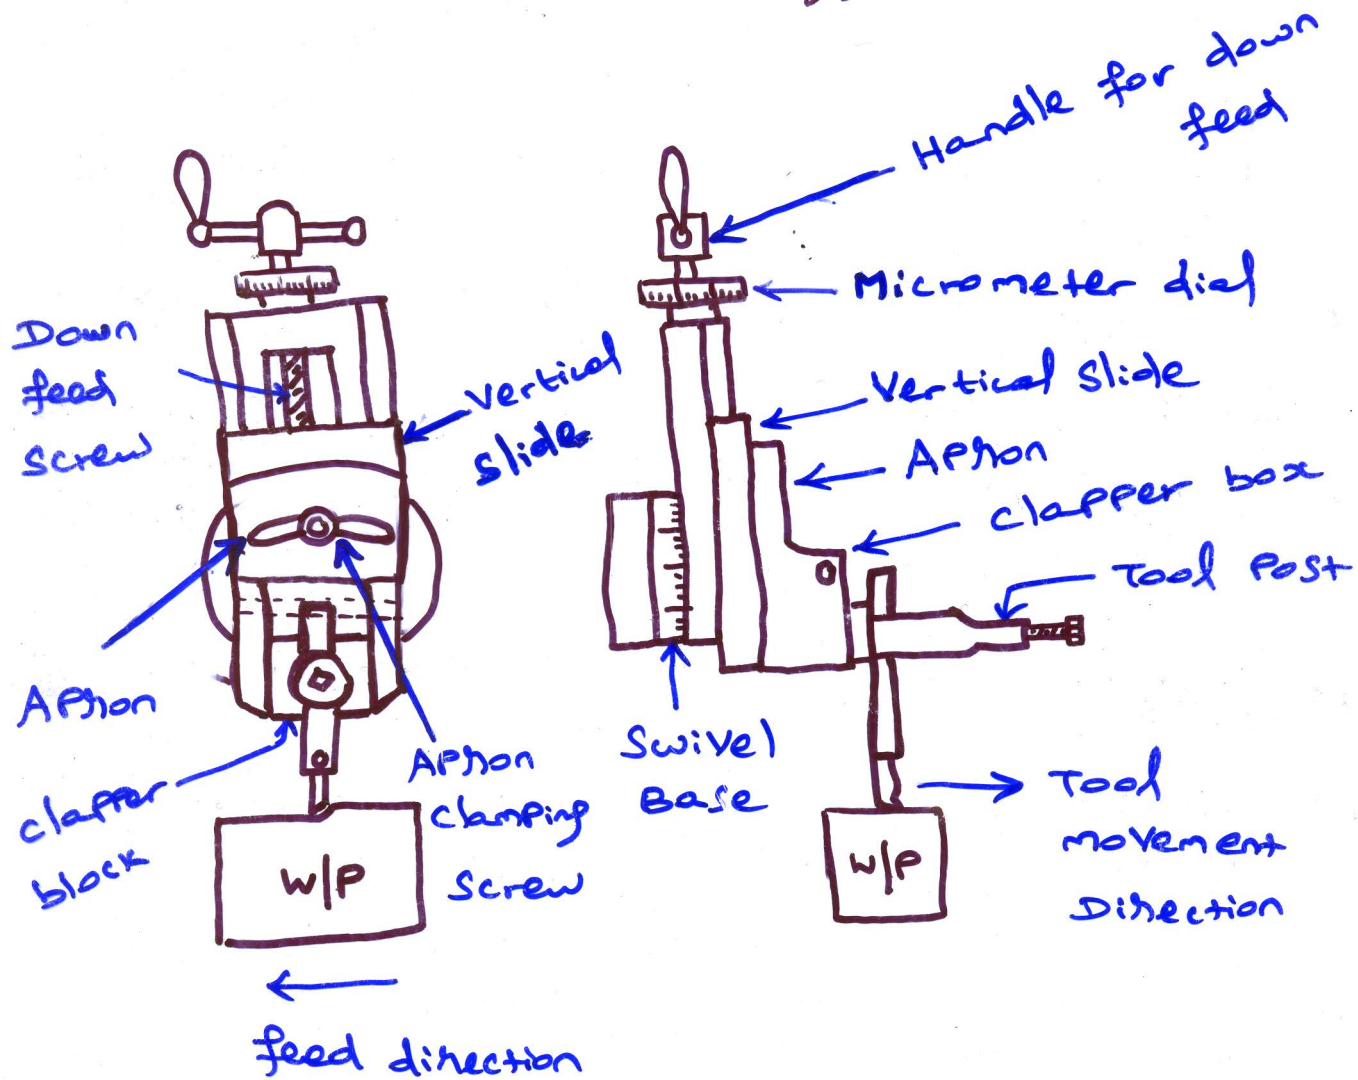

Fig 3.2 - Tool Head of a Shaper
7) Tool head:- [Refer figure 3.2 in P.no:15]
① The tool head of a shaper holds the tool rigidly, provides the vertical and angular feed movement of the tool and allows the tool to have an automatic relief during its return stroke.
② The vertical slide of the tool head has a swivel base which is held on a circular seat on the ram. The swivel base is graduated in degrees, so that the vertical slide may be set